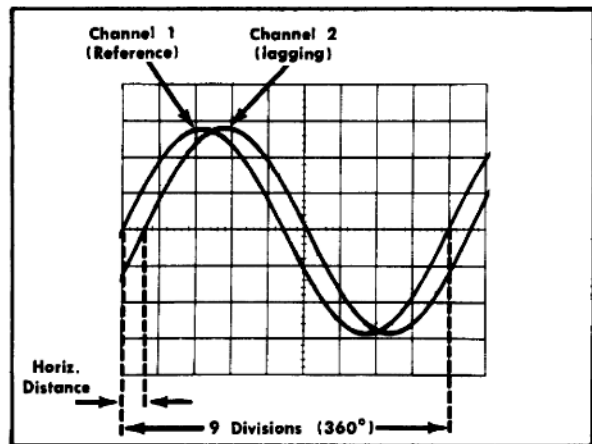
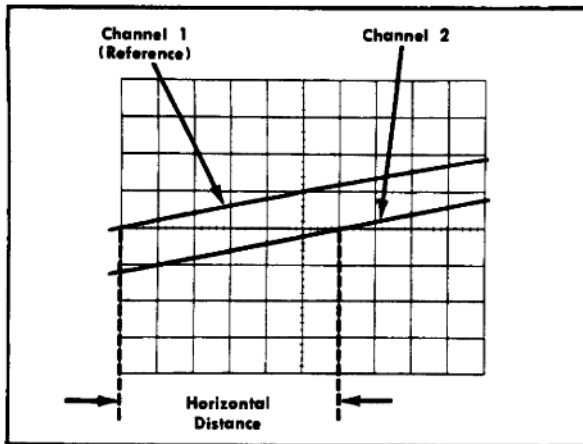

Fig. 2-15. Measuring phase difference.
Fig. 2-16. More accurate phase measurement with increased sweep rate.
5. Turn the VARIABLE TIME/DIV control until one cycle of the reference signal (Channel 1) occupies exactly nine divisions horizontally (see Fig. 2-15). Each division of the graticule represents 40° of the cycle ($360^\circ \div 9 \text{ divisions} = 40^\circ / \text{division}$). The sweep rate can be stated in terms of degrees as $40^\circ / \text{division}$.
Example. Assume a horizontal distance of 0.6 divisions with a sweep rate of $40^\circ / \text{division}$ as shown in Fig. 2-15.
Example. For example, if the sweep rate were increased 10 times with the magnifier, the magnified sweep rate would be $40^\circ \div 10 = 4^\circ / \text{division}$. Fig. 2-16 shows the same signals as used in Fig. 2-15 but with the magnifier on. With a horizontal distance of six divisions, the phase difference is: